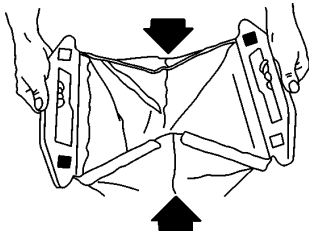

Figure 38
13. Close the rear of the bag by folding the sides in and pressing the interlocking rear handle halves together (Fig. 38).